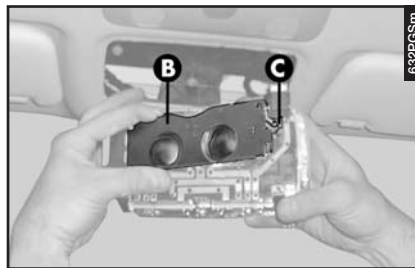

fig. 69
- Remove the screen (**B-fig. 69**) firstly releasing it from the catch (**C**) on the right and then from the two stoppers on the left.
- Refit the screen (**B-fig. 69**), firstly inserting the left side under the two stoppers then on the right side until the catch clicks. (**C-fig. 69**).